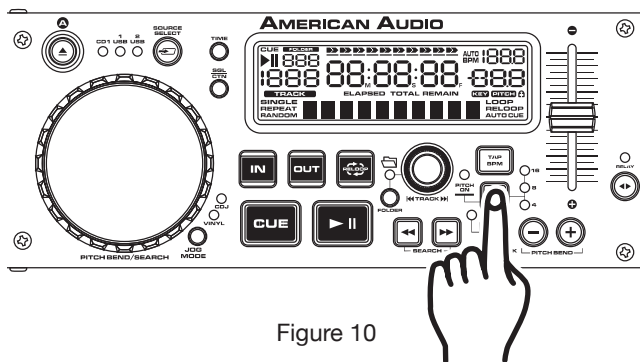

Figure 10
**Using the Pitch Slider Percentage Selector (8):** You may choose a pitch operating range at any time. To change the operating range be sure the pitch function is turned on, see figure 10. The pitch percentage can be changed between +/-4%, +/-8%, +/-16%, and 100%. 4% will allow the least amount of pitch manipulation and 100% will allow the most amount of pitch manipulation. To adjust the different values, press the PITCH ON/OFF BUTTON (8) and Tap on the % BUTTON (8) until your desired value is reached. The LED of the % BUTTON (8); glowing red for 4%, glowing yellow for 8%, or glowing amber for 16%, and all LEDs glowing for 100%.